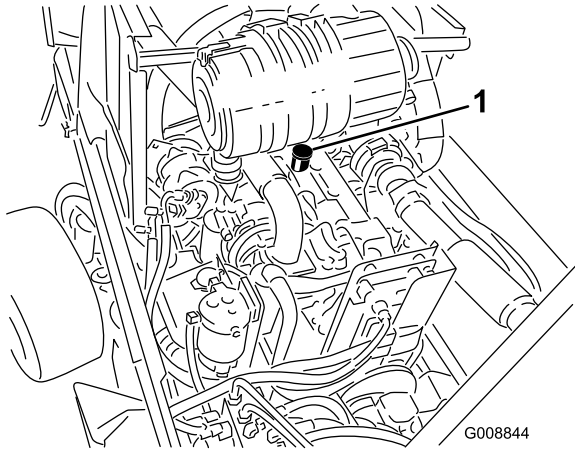

Figure 57
3. If the oil is below the Low mark, remove the fill cap (Figure 57) and add oil until the level reaches the Full mark. **Do not overfill.**